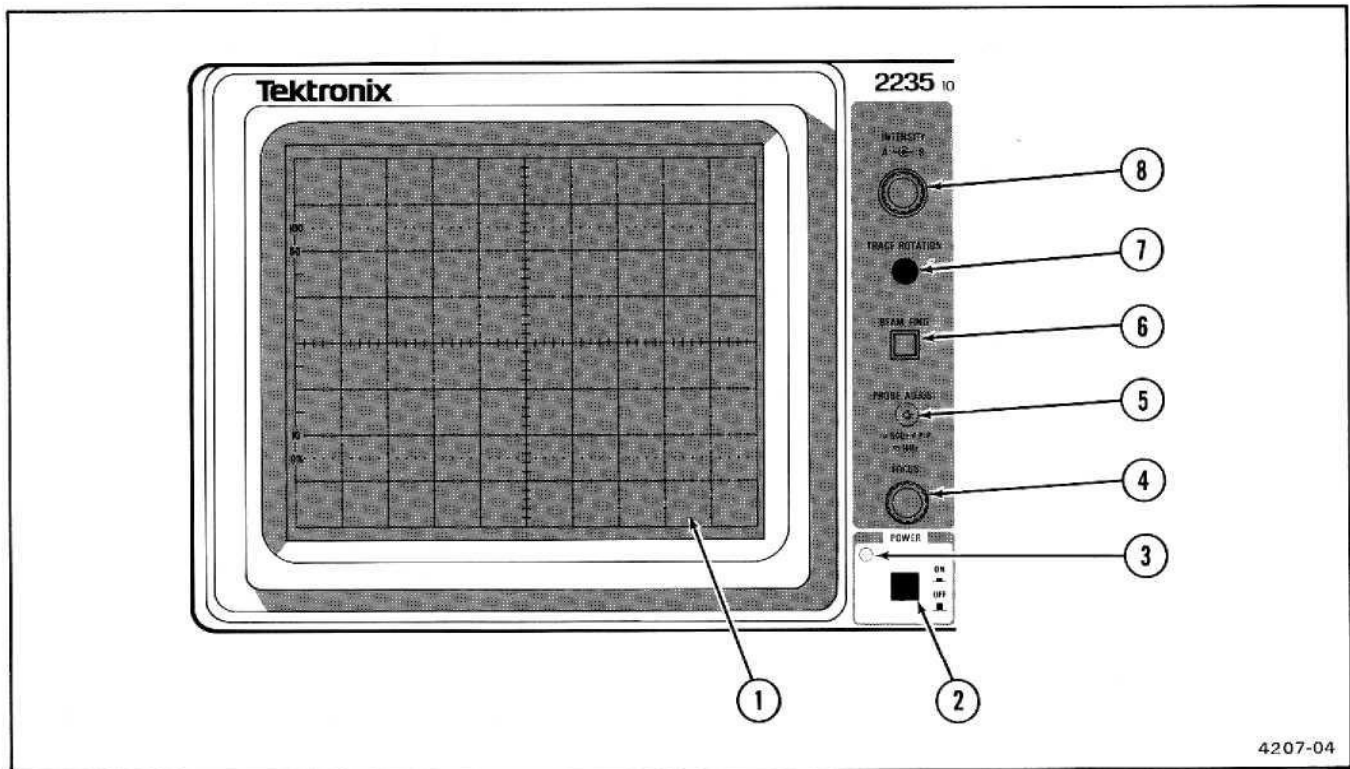

Figure 2-3. Power, display, and probe adjust controls, connector, and indicator.
Refer to Figure 2-3 for location of items 1 through 8.